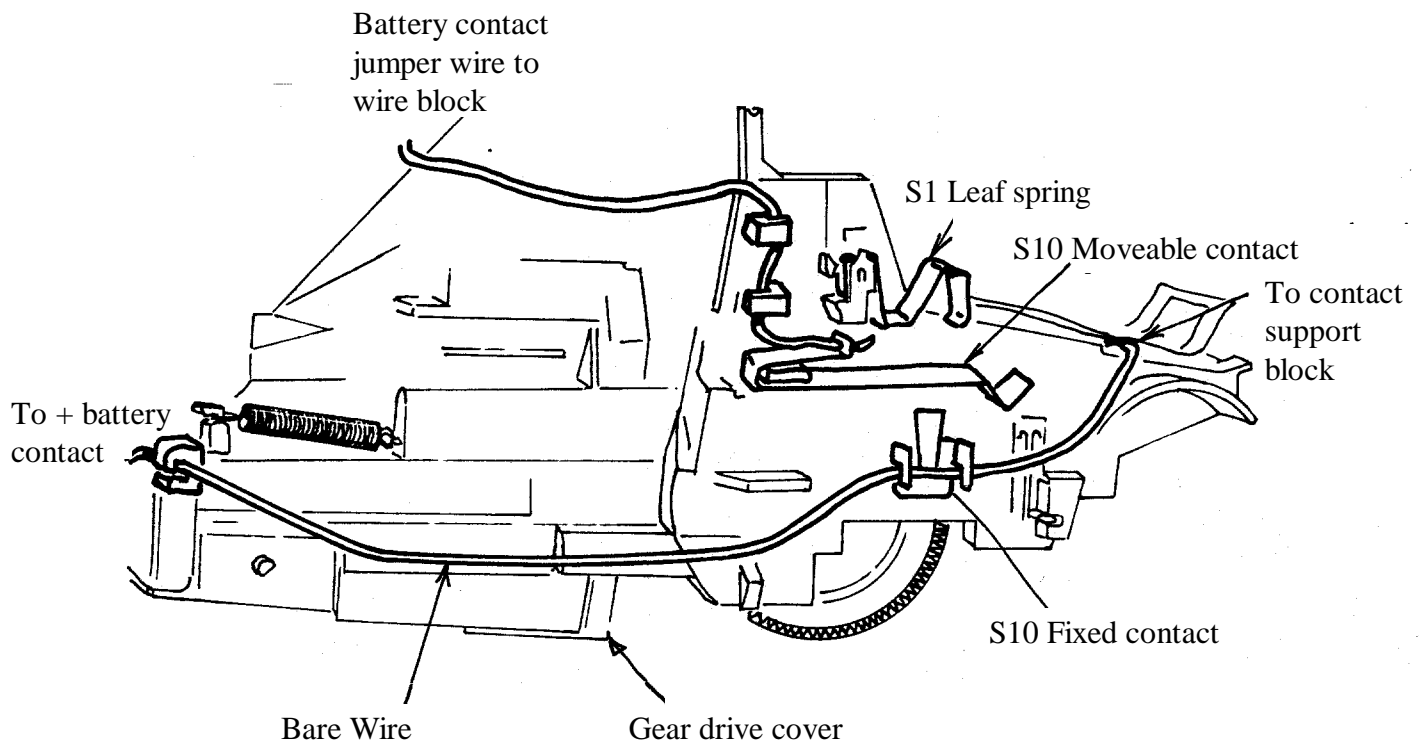

Fig. 39 Disconnecting wires and removing parts from the Gear Drive Cover
43. If necessary, remove the S1 Leaf Spring from the Gear Drive Cover by pulling it forward slightly and then lifting it up (see Fig. 39).
44. Disconnect the red jumper wire from the S10 movable contact by depressing the spring finger to release it (Fig. 39). Move the wire out of the way.
47. If necessary to remove the S10 fixed contact, release the tangs holding the contact by inserting the pins on Tool 12536 into the two holes shown in Fig. 39. The contact can then be pushed out with a screwdriver.